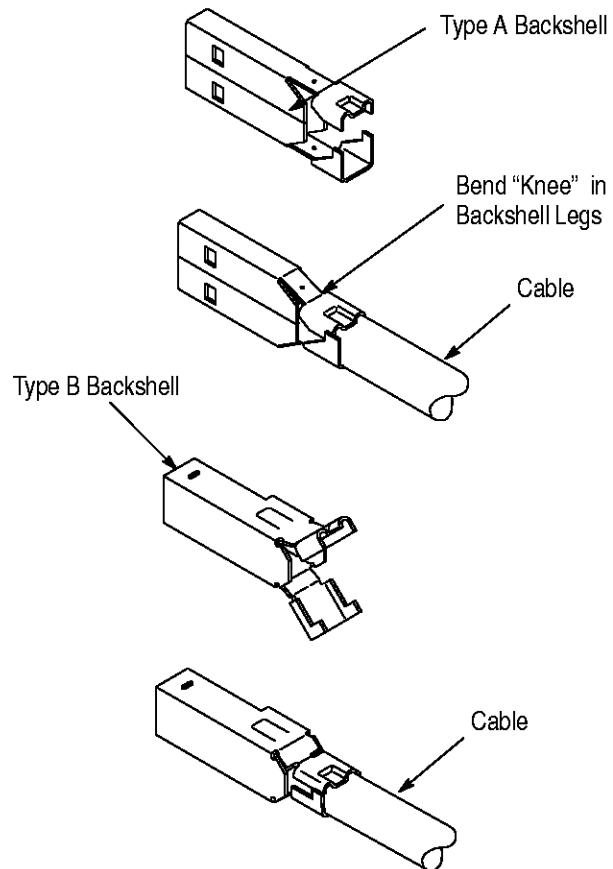

Figure 5
This instruction sheet covers the setup, operation, and maintenance of AMP* Backshell Crimper Assembly 1214695-1. The crimper assembly is used in conjunction with Manual Arbor Frame Assembly 91085-2 or Manual Arbor Frame Assembly 58024-1 to crimp AMP Universal Serial Bus (USB) Type A and B backshells (Figure 5) onto cable with USB connectors.
4. Place backshell on the end of the cable and bend the legs of backshell around the cable. See Figure 5.
It will be necessary to bend a "knee" in the legs of Type A backshells. Refer to Figure 5.